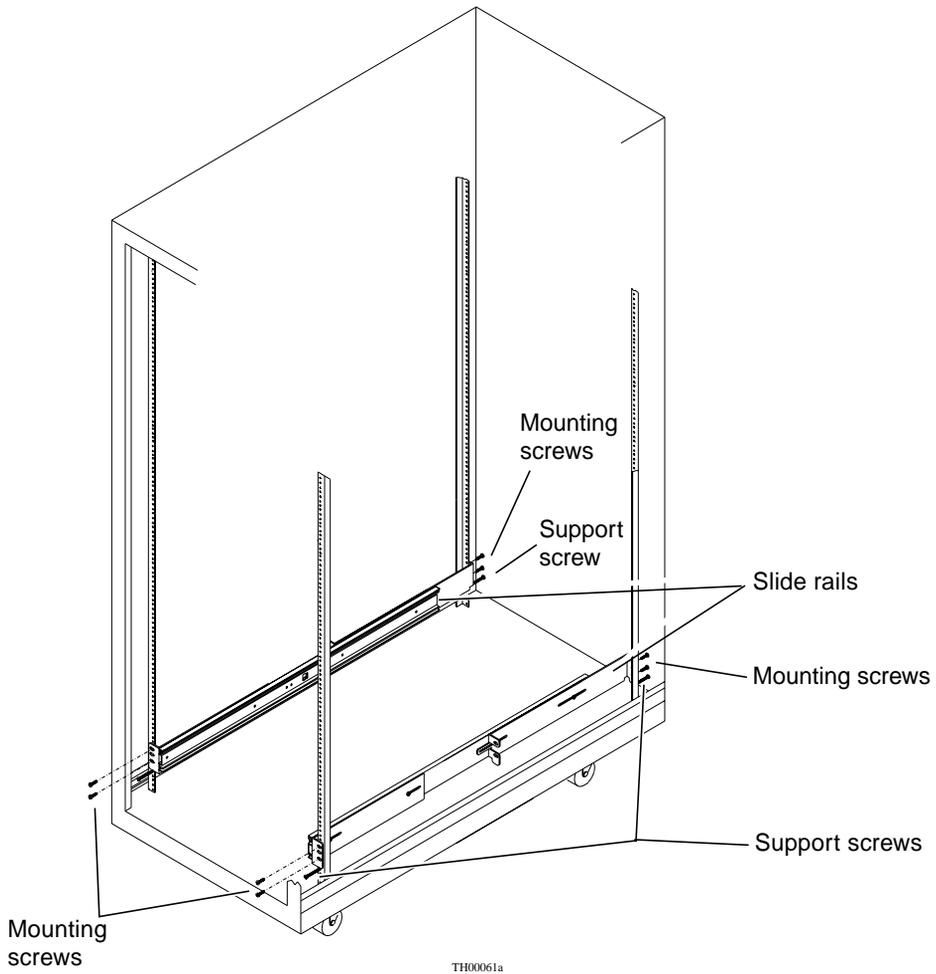

FIGURE 2-6 Installing the Slide Rails
2. Secure each slide rail to the rack (FIGURE 2-6).